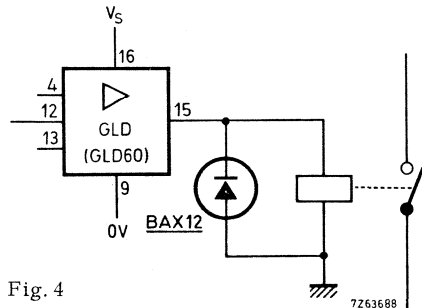

Fig. 4
1. The GLD 60 makes it possible to drive loads (relays, magnetic valves etc.) of which one side has been connected to ground, Fig. 4 illustrates also the suitability of the unit for systems which from the point of safety require that the load is not activated in case of short circuit to ground of the output.